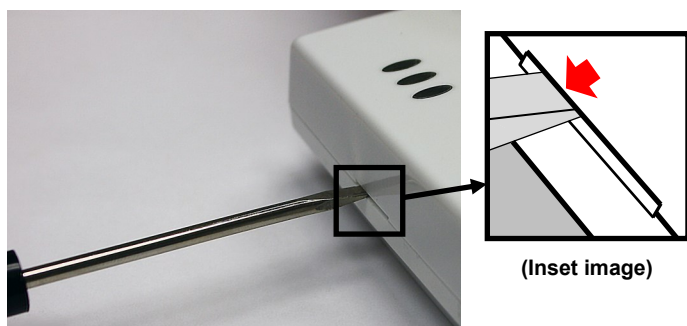

Fig. 2: To separate rear housing from cover
1. Insert a flat-head screwdriver into the slots at the bottom and twist while applying gentle inward pressure (see Fig. 2)
Insert the screwdriver closer to the edges of the unit, as shown in the Fig. 2 "inset" image.